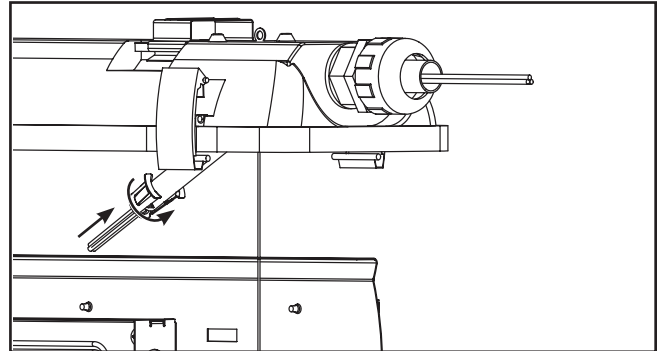

Figure 12.
13. Insert line, neutral, and ground wire through hole in end of conduit clasp and then reattach clasp to the end of the flexible metal conduit. (Figure 12)